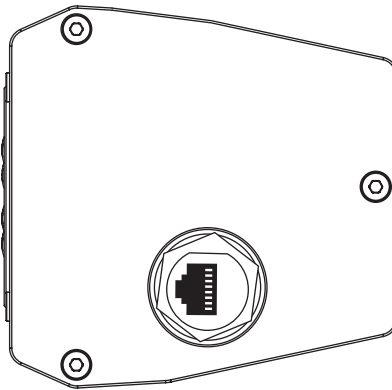

Fig.4 External Controller Port for
- 4) Route controller cable to the XL-800/XL-1000. Connect the other end of the waterproof cable to the side of the XL-800/XL-1000 external controller connector (fig. 4) hand tighten the cable.